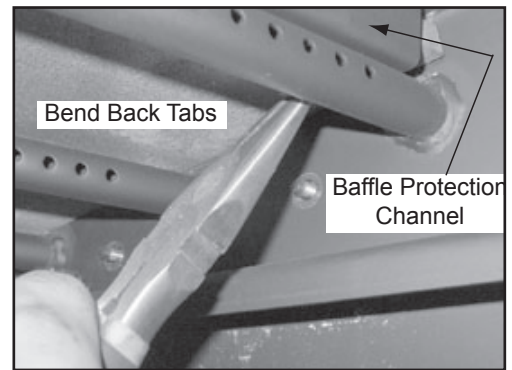

Figure 24.1
2. Remove the baffle protection channel by bending back the tabs using needle nose pliers located at the right and left side of the protection cover. Lift the cover up slightly and pull toward the front and out of the firebox (Figure 24.1).